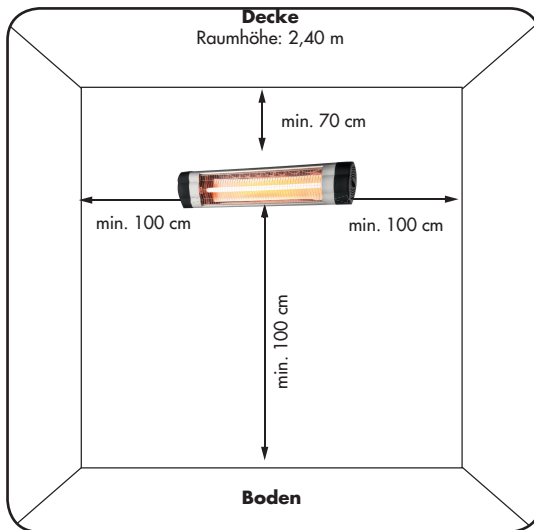

Fig. 4: Correct positioning of the radiating element
- ▶ Pay attention to side spacing and to the distances to flammable materials (see Fig. 4)